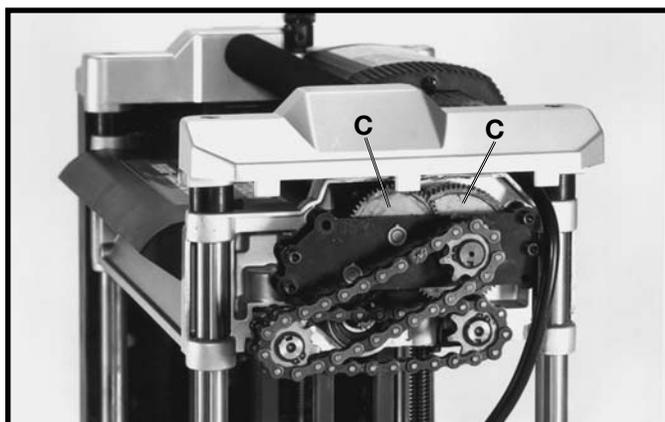

Fig. 42
3. Place extreme pressure lithium grease (see accessories section) on the teeth of gears (C) Fig. 42, and replace the side cover.